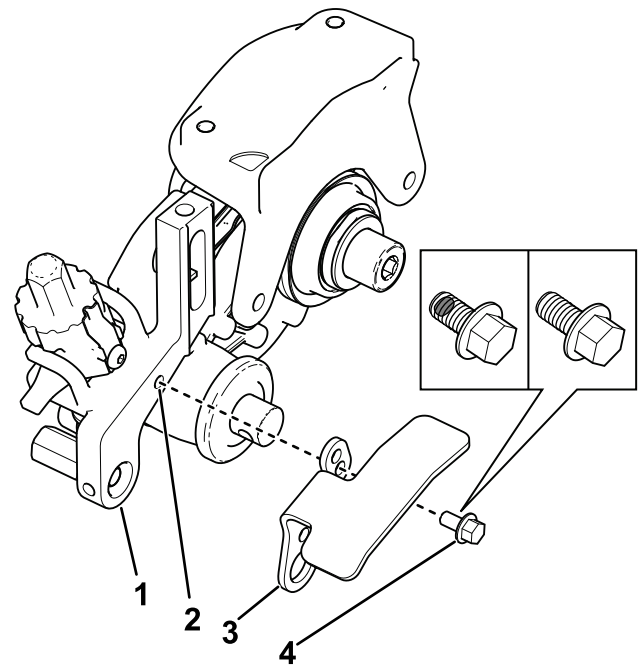

Figure 20
- Secure the grass basket guard to the height-of-cut arm (Figure 20).